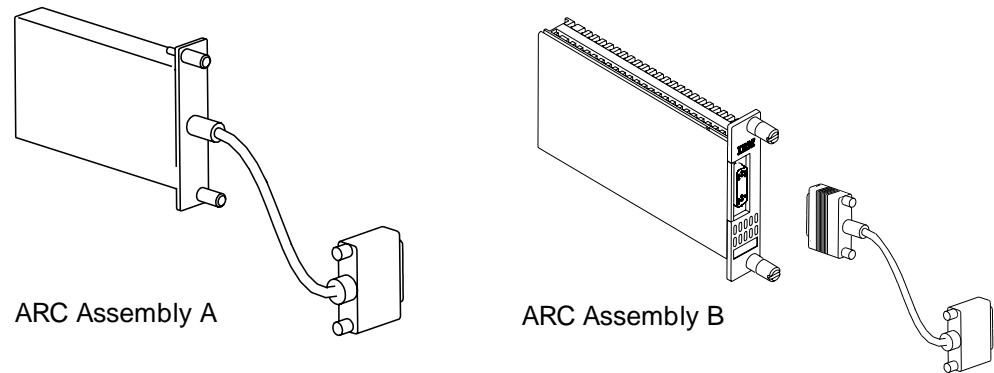

Figure 8-8. ARC Assembly A and B
1. The ARC can be part of the cable (assembly A) or separate from the cable (assembly B). See Figure 8-8.